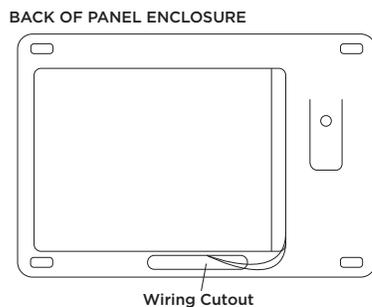

Figure 1: Backup Battery Placement on Panel Enclosure
1. Secure the **battery** to the backside of the **panel enclosure** with the provided **double-sided tape**. Do not cover the tamper location. Refer to Figure 1.